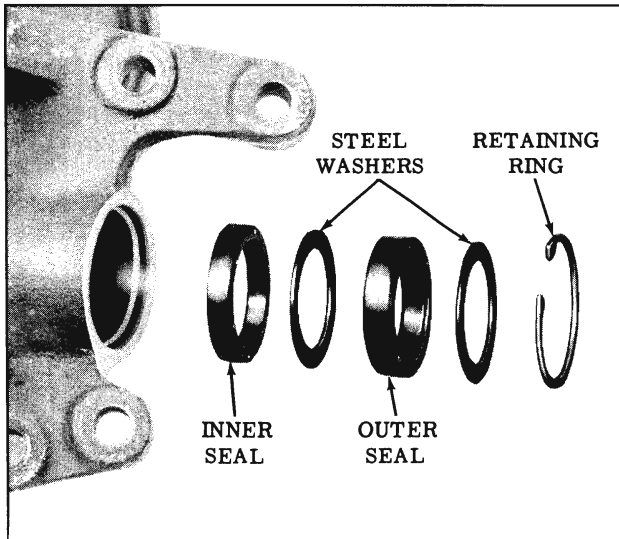

Fig. 4-270 Pitman Shaft Seals
1. If pitman shaft seals ONLY are to be replaced, remove the seal retaining ring and outer steel washer, then pry out the outer seal. Remove the inner steel washer, then pry out the inner seal. (Fig. 4-270)